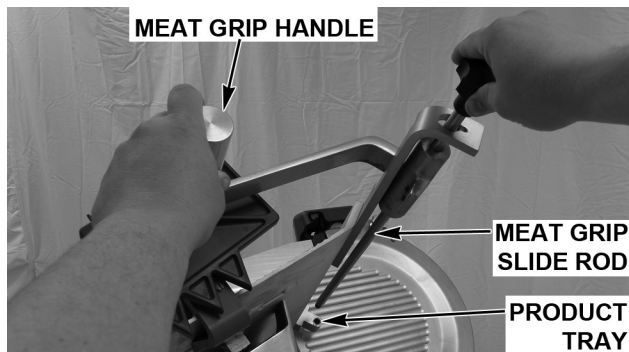

Fig. 8
- The Meat Grip (Fig. 8) is mounted on the Product Tray and can be removed for ease of cleaning.